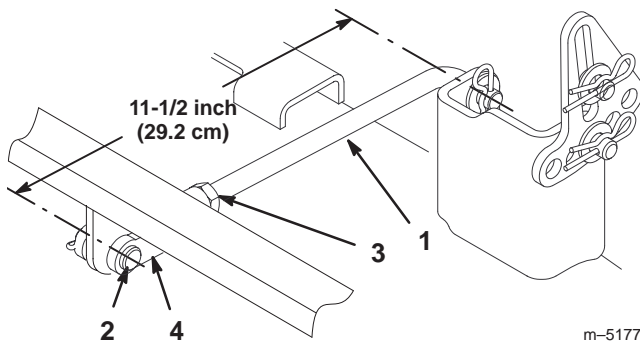

Figure 41
4. Measure the length of the rear trunnion rod (Fig. 41). If the rod length is not 11-1/2 inch (29.2 cm), remove the clevis pin and cotter pin from the end of the rod (Fig. 41), loosen the jam nut, and turn the yoke until the 11-1/2 inch (29.3 cm) dimension is obtained. Then secure the yoke with the clevis pin and cotter pin. Repeat this procedure on the opposite side of the mower.
10. When the front-to-rear blade slope is correct, tighten the jam nuts (Fig. 41 and 43).